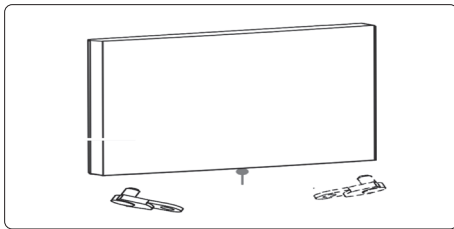

fig.8
- 9. Remove the screw that secures the door stop from the bottom right of the refrigerator compartment door, then remove the door stop and install to the bottom left side (fig.8).